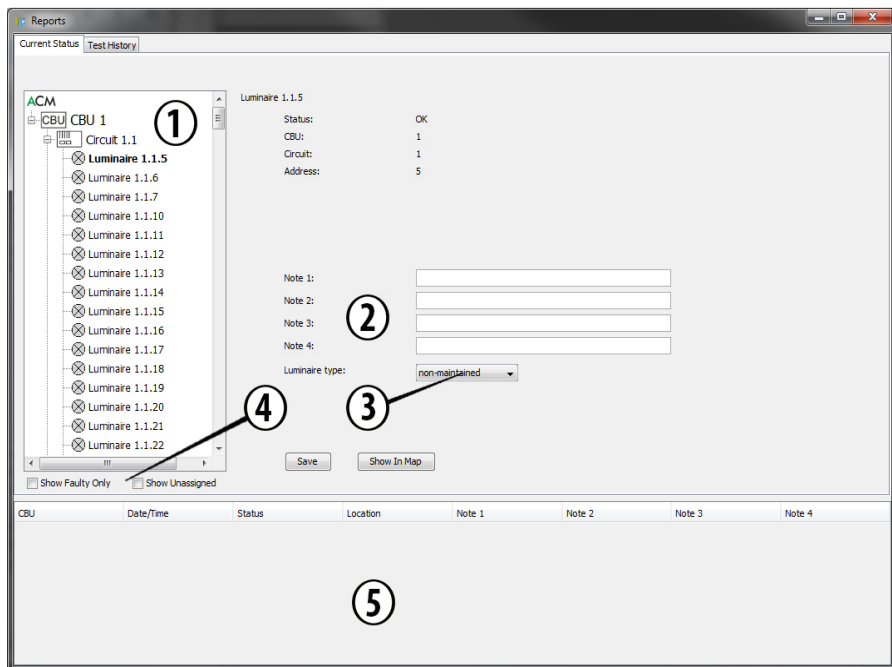

Figure 6. Reports Window – Setting luminaire type and notes
2. Select the Luminaire to which you wish to add type and/or notes from the data tree (No. 1 in the Figure 6). You can filter the list by displaying faulty and/or unassigned luminaires by selecting the corresponding options from the filters (No. 4 in the Figure 6).
3. Add notes (No. 2 in the Figure 6) simply by typing them into the text fields, and select the luminaire type from the drop down list (No. 3 in the Figure 6). To save these changes, click Save. By clicking the Show on Map button, the